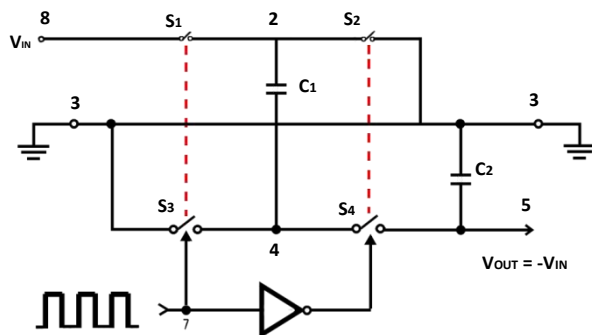
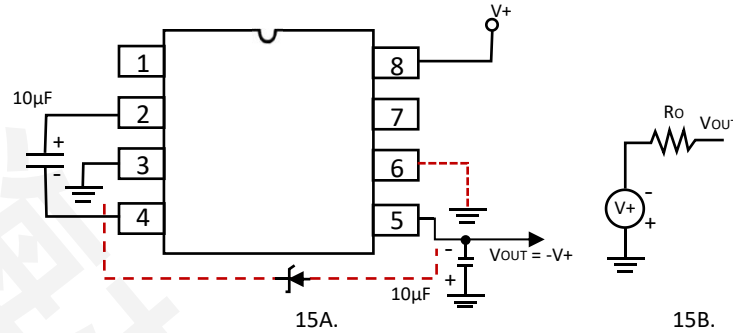
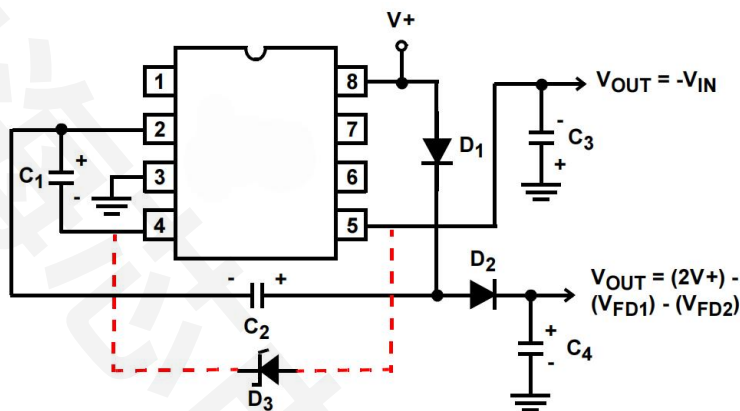
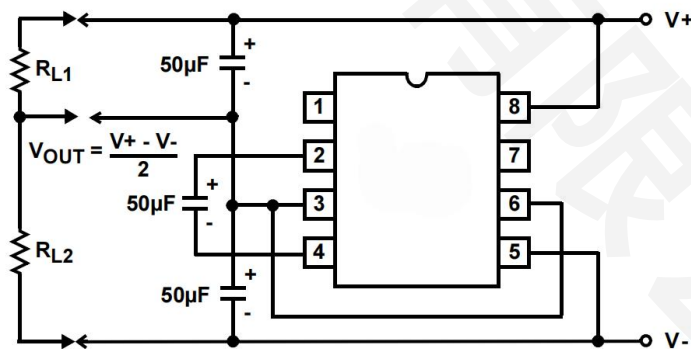

FIGURE 14. IDEALIZED NEGATIVE VOLTAGE CONVERTER
FIGURE 15. SIMPLE NEGATIVE CONVERTER AND ITS OUTPUT EQUIVALENT
FIGURE 19. COMBINED NEGATIVE VOLTAGE CONVERTER AND POSITIVE DOUBLER
FIGURE 20. SPLITTING A SUPPLY IN HALF
The ICL7660CBAZ-T-HX contain all the necessary circuitry to complete a negative voltage converter, with the exception of two external capacitors, which may be inexpensive $10\mu F$ polarized electrolytic types. The mode of operation of the device may best be understood by considering Figure 14, which shows an idealized negative voltage converter. Capacitor C_1 is charged to a voltage, V_+ , for the half cycle, when switches S_1 and S_3 are closed. (Note: Switches S_2 and S_4 are open during this half cycle). During the second half cycle of operation, switches S_2 and S_4 are closed, with S_1 and S_3 open, thereby shifting capacitor C_1 to C_2 such that the voltage on C_2 is exactly V_+ , assuming ideal switches and no load on C_2 . The ICL7660CBAZ-T-HX approach this ideal situation more closely than existing non-mechanical circuits.
In the ICL7660CBAZ-T-HX, the four switches of Figure 14 are MOS power switches; S1 is a P-Channel device; and S2, S3 and S4 are N-Channel devices. The main difficulty with this approach is that in integrating the switches, the substrates of S3 and S4 must always remain reverse biased with respect to their sources, but not so much as to degrade their “ON” resistances. In addition, at circuit start-up, and under output short circuit conditions ($V_{OUT} = V+$), the output voltage must be sensed and the substrate bias adjusted accordingly. Failure to accomplish this would result in high power losses and probable device latch-up.
where V1 and V2 are the voltages on C1 during the pump and transfer cycles. If the impedances of C1 and C2 are relatively high at the pump frequency (see Figure 14) compared to the value of RL, there will be a substantial difference in the voltages, V1 and V2. Therefore it is not only desirable to make C2 as large as possible to eliminate output voltage ripple, but also to employ a correspondingly large value for C1 in order to achieve maximum efficiency of operation.
The majority of applications will undoubtedly utilize the ICL7660CBAZ-T-HX for generation of negative supply voltages. Figure 15 shows typical connections to provide a negative supply where a positive supply of +1.5V to +12V is available. Keep in mind that pin 6 (LV) is tied to the supply negative (GND) for supply voltage below 3.5V.
The output characteristics of the circuit in Figure 15 can be approximated by an ideal voltage source in series with a resistance as shown in Figure 15B. The voltage source has a value of $-(V+)$. The output impedance (R_O) is a function of the ON resistance of the internal MOS switches (shown in Figure 14), the switching frequency, the value of C_1 and C_2 , and the ESR (equivalent series resistance) of C_1 and C_2 . A good first order approximation for R_O is shown in Equation 2:
Figure 19 combines the functions shown in Figure 15 and Figure 18 to provide negative voltage conversion and positive voltage doubling simultaneously. This approach would be suitable, for example, for generating +9V and -5V from an existing +5V supply. In this instance, capacitors C1 and C3 perform the pump and reservoir functions, respectively, for negative voltage generation, while capacitors C2 and C4 are pump and reservoir, respectively, for the doubled positive voltage. There is a penalty in this configuration which combines both functions, however, in that the source impedances of the generated supplies will be somewhat higher, due to the finite impedance of the common charge pump driver at pin 2 of the device.
The bidirectional characteristics can also be used to split a high supply in half, as shown in Figure 20. The combined load will be evenly shared between the two sides, and a high value resistor to the LV pin ensures start-up. Because the switches share the load in parallel, the output impedance is much lower than in the standard circuits, and higher currents can be drawn from the device. By using this circuit, and then the circuit of Figure 15, +15V can be converted, via +7.5 and -7.5, to a nominal -15V, although with rather high series output resistance ($\sim 250\Omega$).